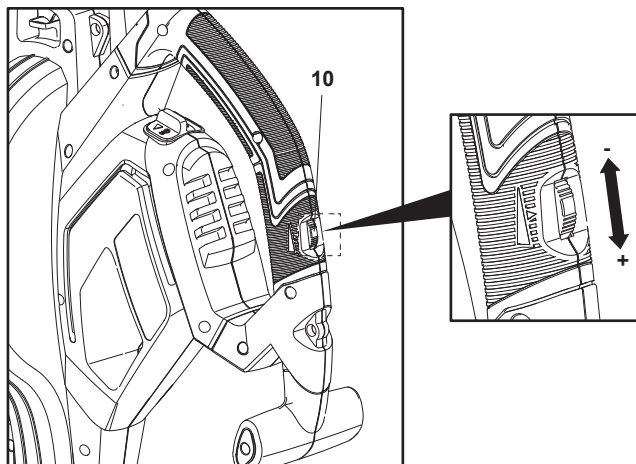

Fig. 13
1. Turn the speed dial (10) to a higher number to increase the maximum speed (Fig. 13).
2. Turn the speed dial (10) to a lower number to decrease the maximum speed.